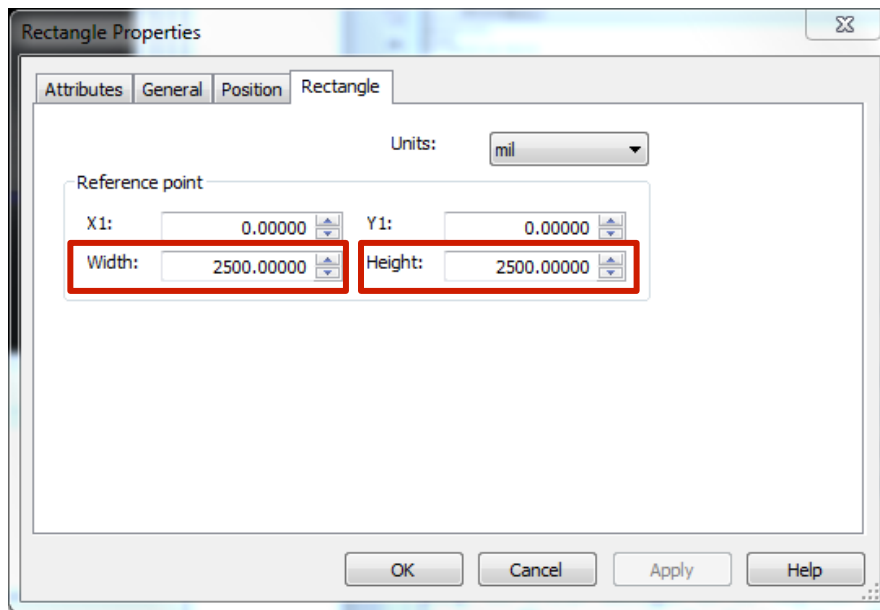

Figure 14: Board outline size
7. Right-click an edge of the yellow rectangle and select **Properties** from the menu that appears. Under the **Rectangle** tab set the width to 2500 and the height to 2500 as shown in Figure 14. Click **OK** and notice that the yellow rectangle becomes much smaller. This rectangle represents the area of the circuit board in which all of the components and traces must fit.